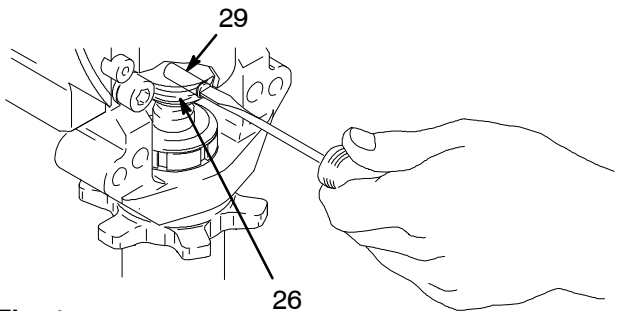

Fig. 1 7675B
- For Hi-Boy models;** remove spring clip (32) and drain hose (54). Unscrew suction tube (30) from pump, hold wrench on pump intake valve (A) to keep pump from loosening. **For Lo-Boy models;** unscrew swivel union (30aa) from pump.
- Disconnect pump outlet hose (33) from displacement pump outlet nipple (62).
- Fig. 1. Use screwdriver to push up retaining spring (26) at top of pump. Push out pin (29).